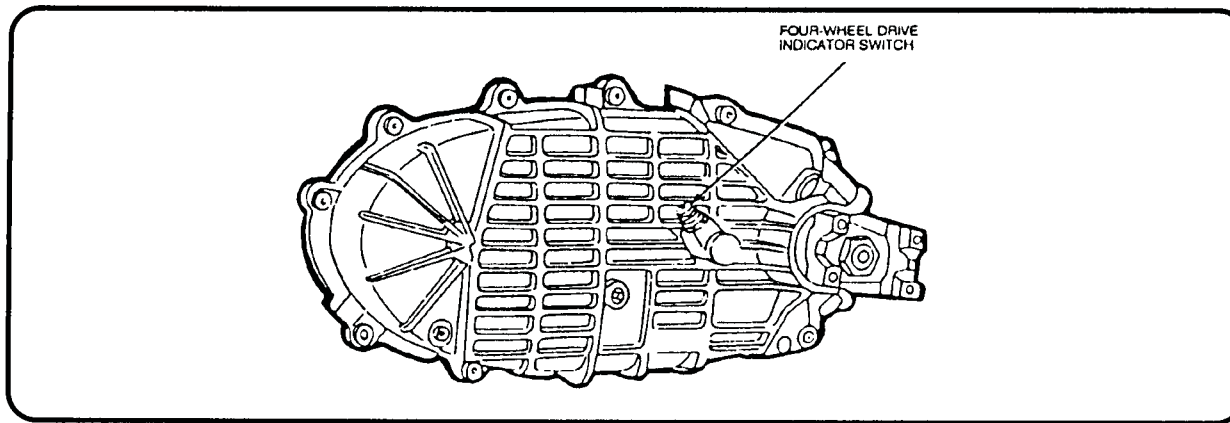

Figure 37
**Description:** The low range switch is located on the transfer case assembly. It provides an indication of when the 4x4 transfer case gear system is in LOW range Figure 37.